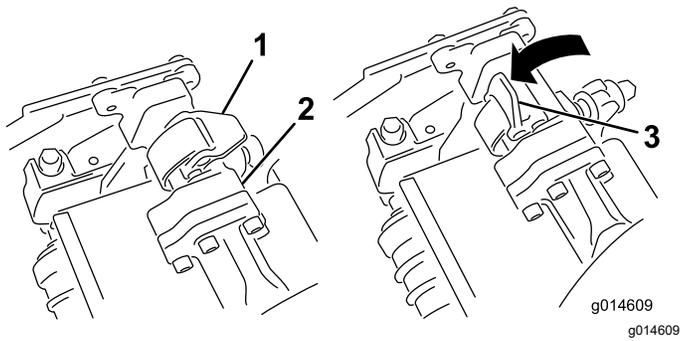
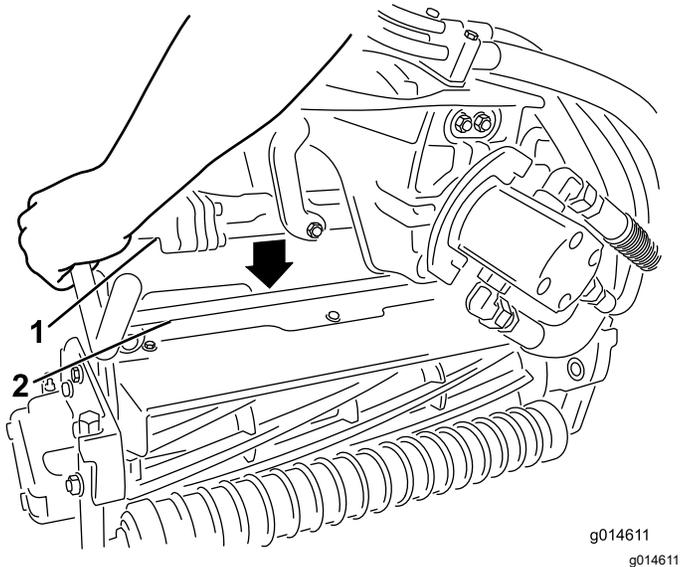

Figure 52
Figure 53
3. With the latches on the suspension-arm bar pointing up (i.e., open) (Figure 52), push the suspension arm down so that the bar fits over the bar across the top of the cutting unit (Figure 53).
- 4. Close the latches down and around the cutting-unit bar and lock them in place (Figure 52).
4. Open the latches on the suspension-arm bar of the cutting unit you are removing (Figure 52).